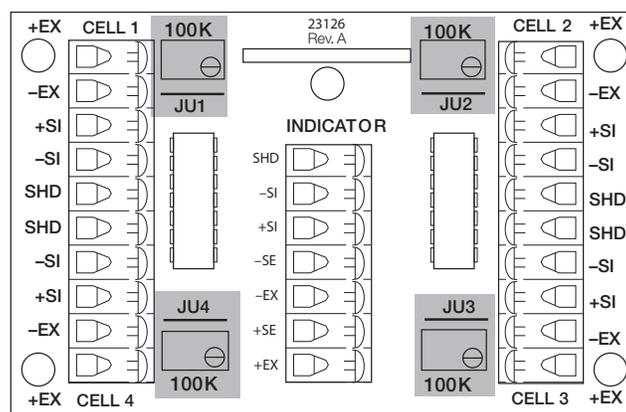

Figure 3-1. Trim Potentiometers.
4. Turn each of the four potentiometers (shaded areas of Figure 3-1) clockwise to increase the reading until there is a clicking sound. This ensures the maximum signal from each load cell.